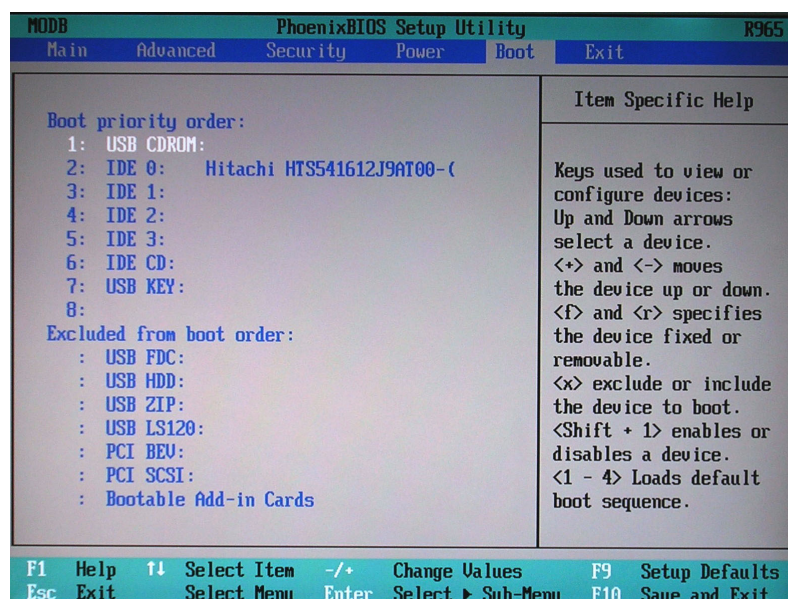

Figure 8-121 BIOS Boot Parameters
Boot	Figure 8-121 on page 8-116
- 9.) Set the parameters in the **Boot** parameters screen as shown above in Figure 8-121.